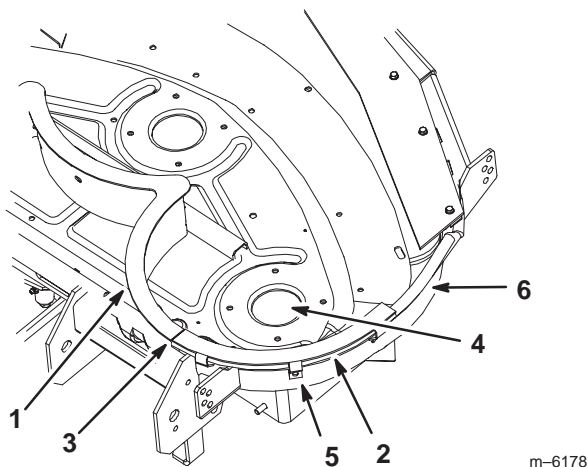

Figure 12
1. Place the left rear baffle behind the left cutting chamber (trim side of mower) (Fig. 12). The tabs will mount on the outside of the mower.
2. Align the left rear baffle tight against and flush with the bottom of the center baffle and against the mower flange (Figures 12 and 13).